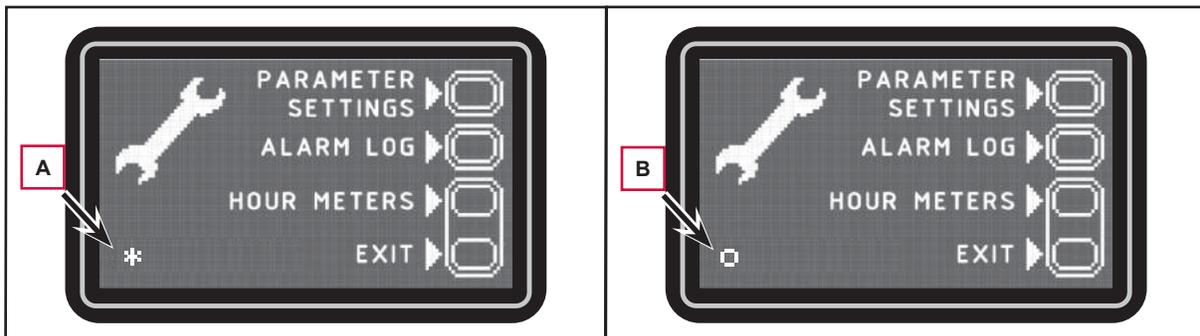

Figure 12
1. Insert the Super User key (yellow) in place of the operator key (grey) to access the main screen (Figure 12) of the multifunction display.
2. With the solution tank more than half full, the symbol displayed is (A).
3. With the solution tank less than half full, the symbol displayed is (B).